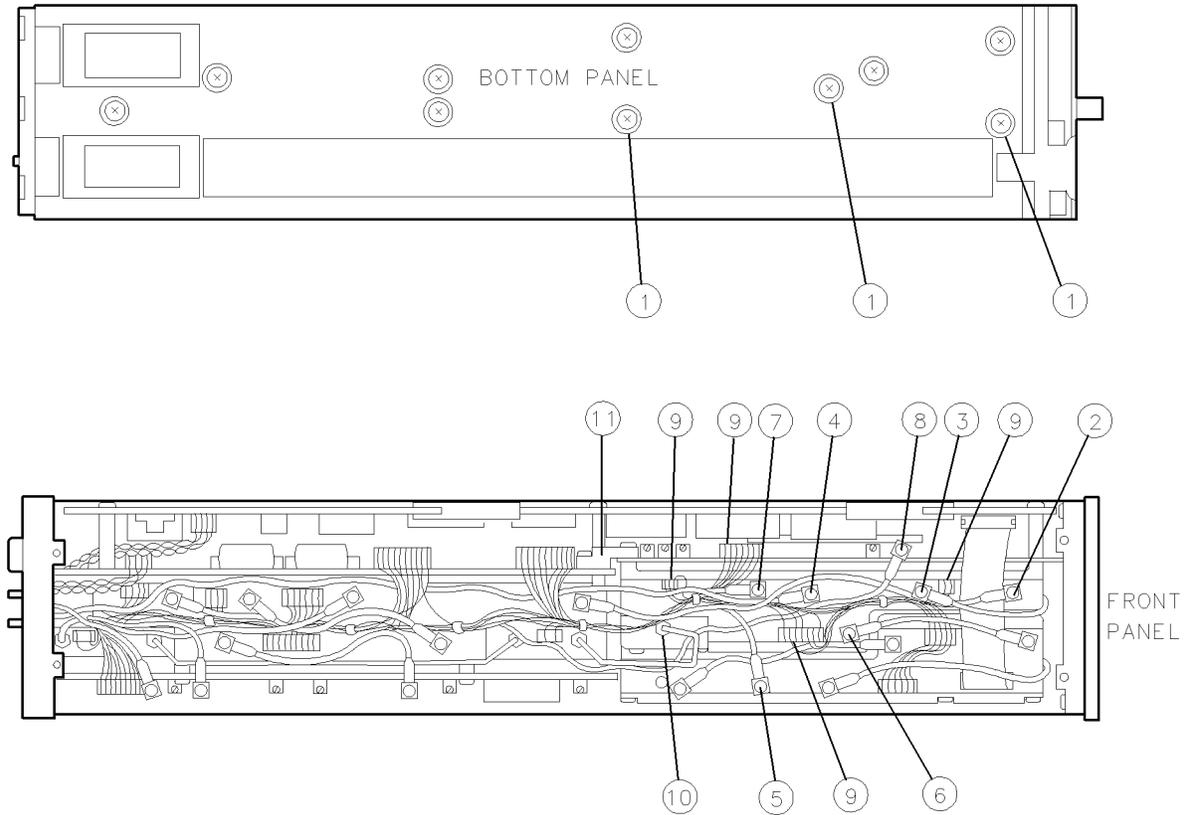

Figure 9-4. A4 Idler Phase-Lock Loop Removal/Replacement
2. Remove three screws ① while the module rests on its left side. See Figure 9-4.
3. Disconnect W2 ②, W13 ③, W7 ④, W3 ⑤, W1 ⑥, and W8 ⑦ from the A4 idler phase-lock loop. Disconnect W6 ⑧ from the A2 video processor.
4. Disconnect the three A11 wiring harness wire harness connectors ⑨.
5. Remove semirigid cable W17 ①⑩.
6. Remove the front screw from A2 video processor/A3 power supply bracket ①①. Loosen the bracket's back screw.